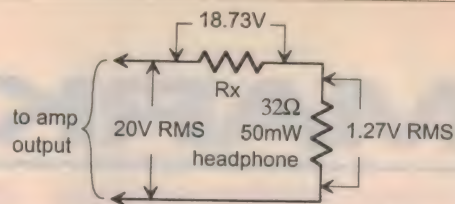

Fig.2: Calculating the series resistance for headphones connected to a power amplifier.
(1) Determine the maximum RMS output voltage of the amplifier by finding the square root of the product of the maximum output power and the speaker resistance for this output power. For example, if the amplifier is rated at 100W into a 4W load, the maximum output voltage is 20V RMS.
(2) Now figure out the RMS voltage to drive the headphones. To do this, find the square root of the product of the power rating and the resistance of the headphones. For 32Ω 50mW headphones, this works out at 1.27V RMS.
(3) Now subtract (2) from (1), to find the voltage drop across the unknown series resistor R_x , which for this example is 18.73V RMS. The ratio of the two resistors (R_x and $R_{\text{headphone}}$) is the same as the voltage ratio, so R_x is the resistance of the headphones multiplied by the voltage across R_x divided by the voltage across the headphones. That is, around 470Ω for this example. (See Fig.2.)
(4) The power rating of R_x is the square of the voltage across it, divided by its resistance ($= 350.8/470$), which gives 0.75W. So for this example, use a 470 Ω 1W resistor (one per channel).